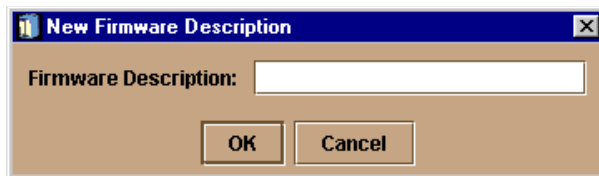

Figure 3-27: New Firmware Description Dialog Box
6. Select the desired firmware version file (downloaded in step 1) from the SDCM server diskette drive or hard drive. Ensure the correct directory path and filename appear in the File name field and click Save. The New Firmware Description dialog box (Figure 3-27) displays.